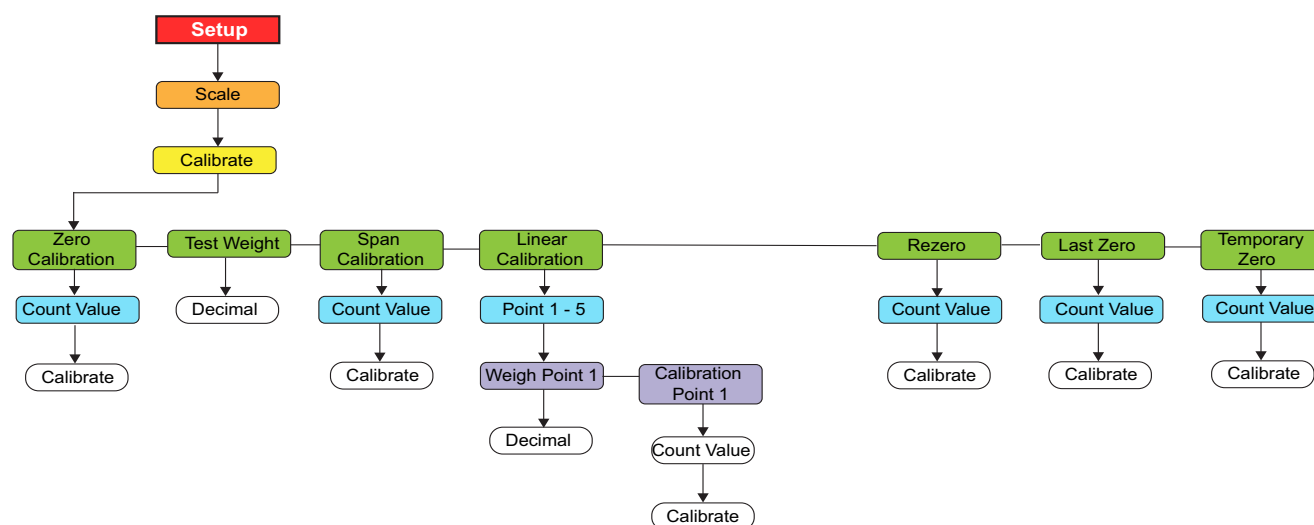

Figure 4-1. Calibration Menu
1. Put the indicator in setup mode, see Figure 3-1 on page 23, (or use  if audit trail is enabled), and navigate to **Calibrate** (see Figure 4-1).